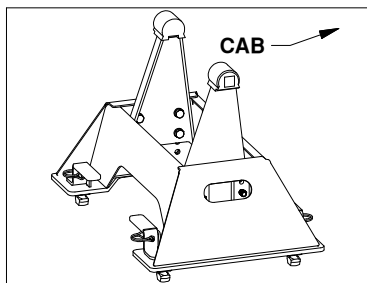
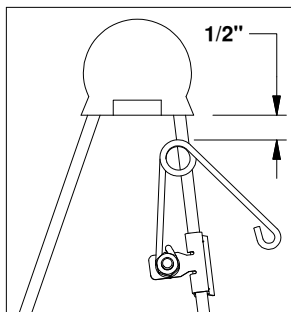

Figure B3: View of base.
Figure B4: Driver
- Attach kit.** Locate the flange which will be closest to the truck cab on the driver side pivot arm, see Figure B3. The clip should be placed so that when the springs coil is in the line with the edge of the arm there will be 1/2" of clearance between the bottom of the rubber bumper and the top of the spring, see Figure B4. Drive the clip securely onto the flange with a hammer.